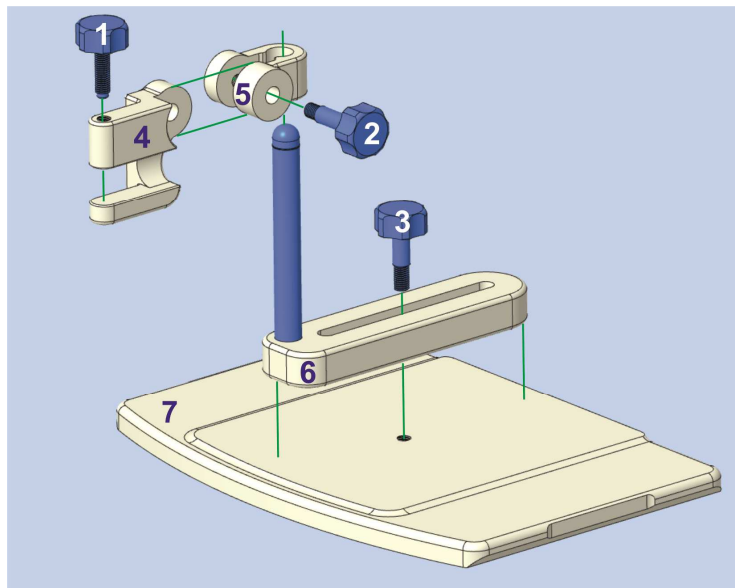

Figure 13: Disassembled ER Coil Support.
- b. Disassemble the ER Coil Support according to Figure 13.